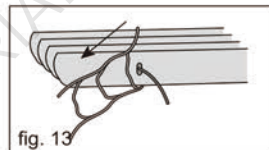

fig. 13
5. Count the number of slats you wish to remove. Pull lift cord from these slats to allow them to slide out of the ladder rung. See fig. 13.